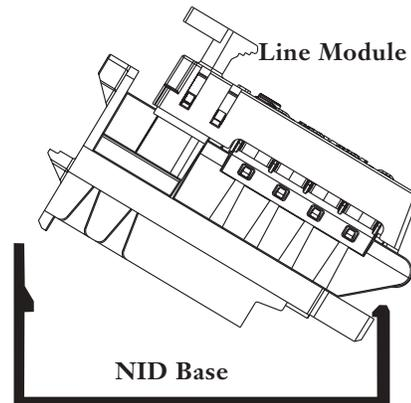

Figure 2 — Mount Module in NID Base
**Step 1** Slide line module into base of NID. Ensure that the slot on the back of the module is captured by the latch. (Figure 2).